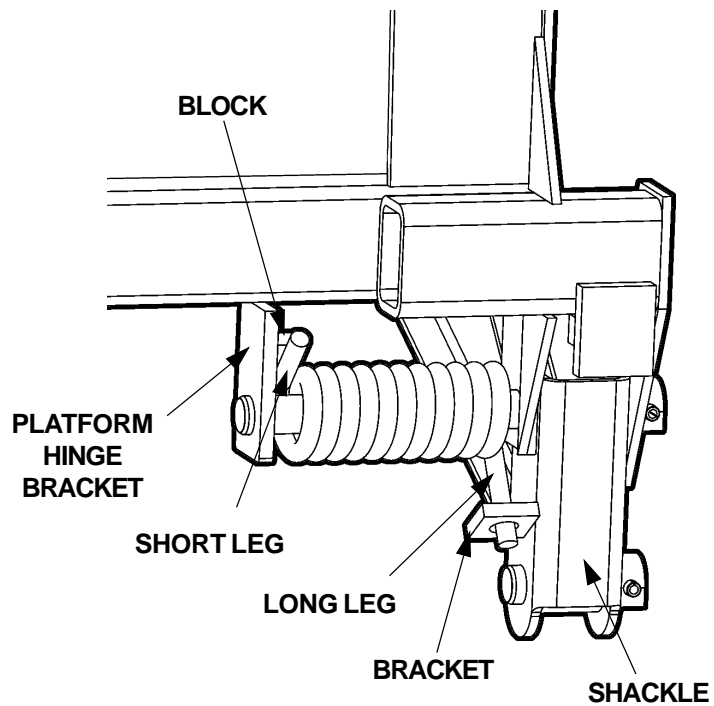

FIG. 6
4. Install the Torsion Spring as shown in (**FIG. 6**). Make sure the long leg of the spring is inserted in the bracket located on the Shackle. Make sure the short end of the spring is visible and resting against the block on the Platform Hinge Bracket (**FIG. 6**).